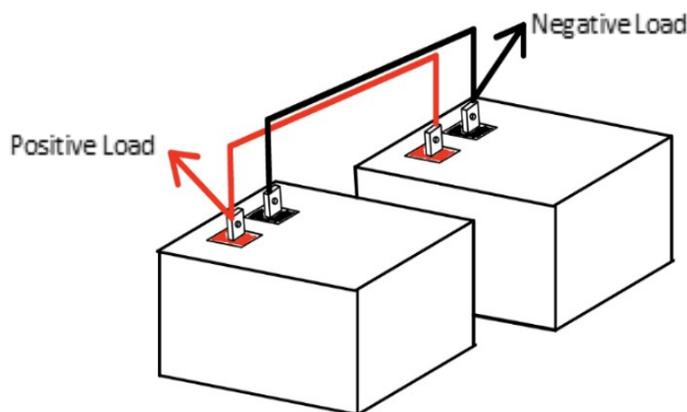

Figure 3: Two 8D Batteries connected in Parallel to create a 12V 540Ah Battery Bank
Multiple BB8D batteries may be connected in parallel to increase the capacity and current of the system. When batteries are connected in parallel, the voltage of the system does not change, but the capacity and current limits are additive. For example, two BB8D batteries connected in parallel (shown in Fig. 3) create a 12V 540Ah bank that can deliver 600A continuously and 1,000A for 30 seconds.
7. Repeat steps 3-6 for additional batteries in the system. An example of a finished connection can be found below in Fig. 3